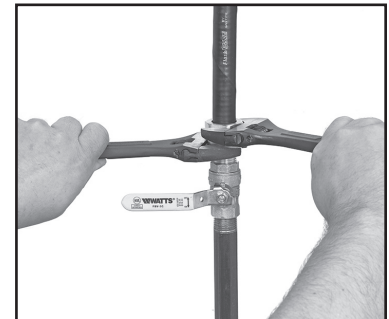

FIG. 6
STEP 5 WRENCH FITTING (FIG. 6)